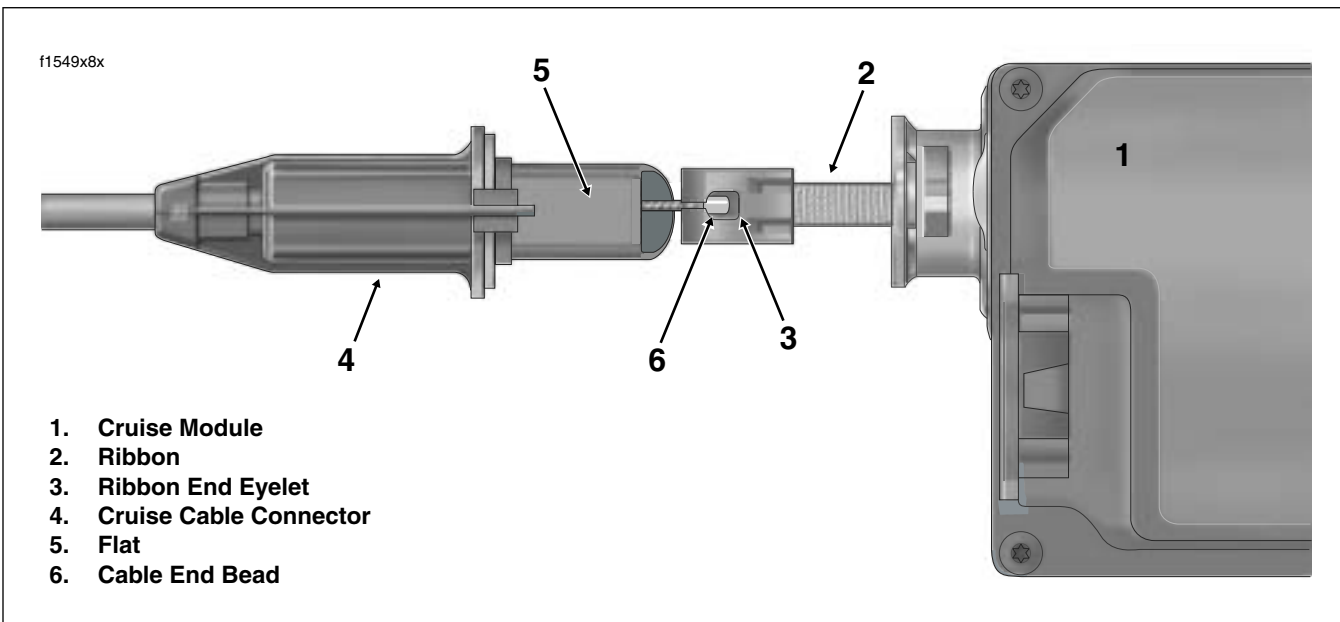

Figure 8-135. Remove Cable End Bead From Ribbon End Eyelet
6. Rotate cruise cable connector in a counterclockwise direction to detach from cruise module. See Figure 8-135.
5. With the hole in the ribbon end eyelet and the flat on the cable connector housing facing outboard, fit cable end bead into ribbon end eyelet. See Figure 8-135.
4. With the hole in the ribbon end eyelet and the flat on the cable connector housing facing outboard, fit cable end bead into ribbon end eyelet. See Figure 8-135.